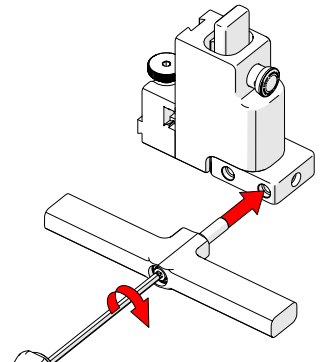

Fig. 52 - Screw into outer threaded hole
3. Choose an alternate size of yoke and screw the yoke to the outer probe holder hole (Fig. 52).